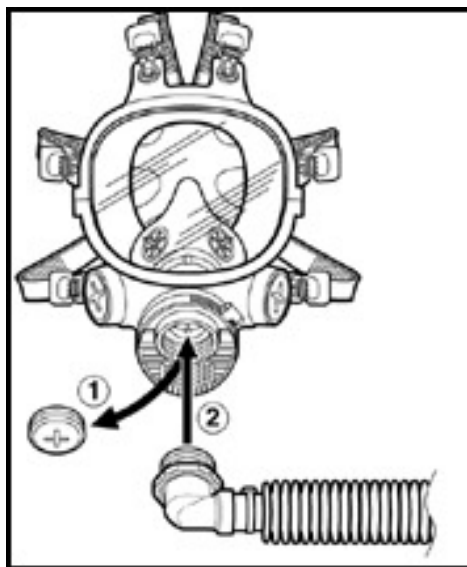

Fig: 6
1. Remove the 3M™ 7890 Center Port Plug from the full face respirator. Ensure 7890 plugs are in place on each side port of the respirator. (Fig.6)
2. Screw GVP-123 breathing tube elbow adapter into the center port of the 7800S facepiece inlet of the respirator. (Figure6)